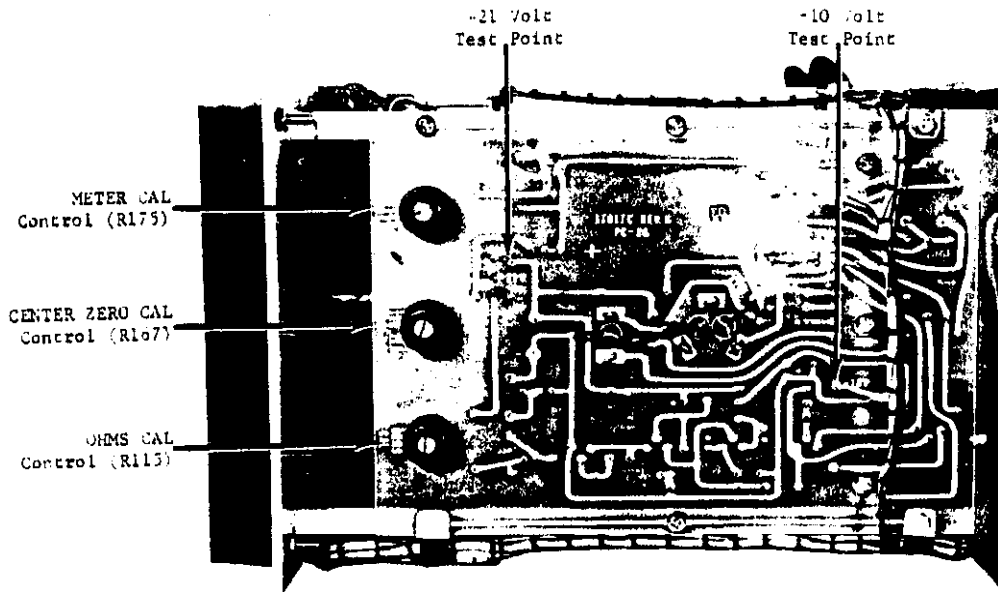
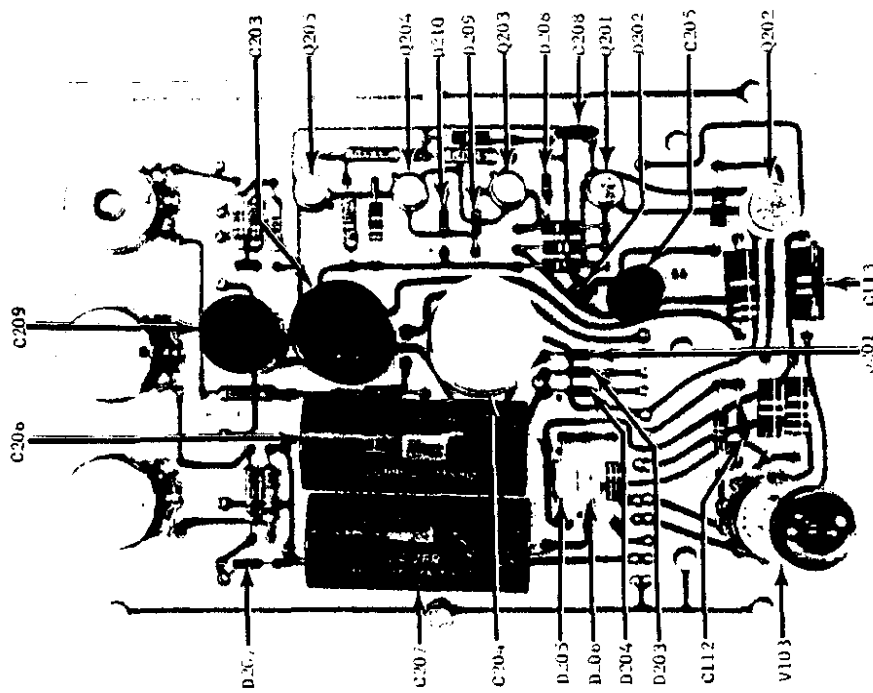
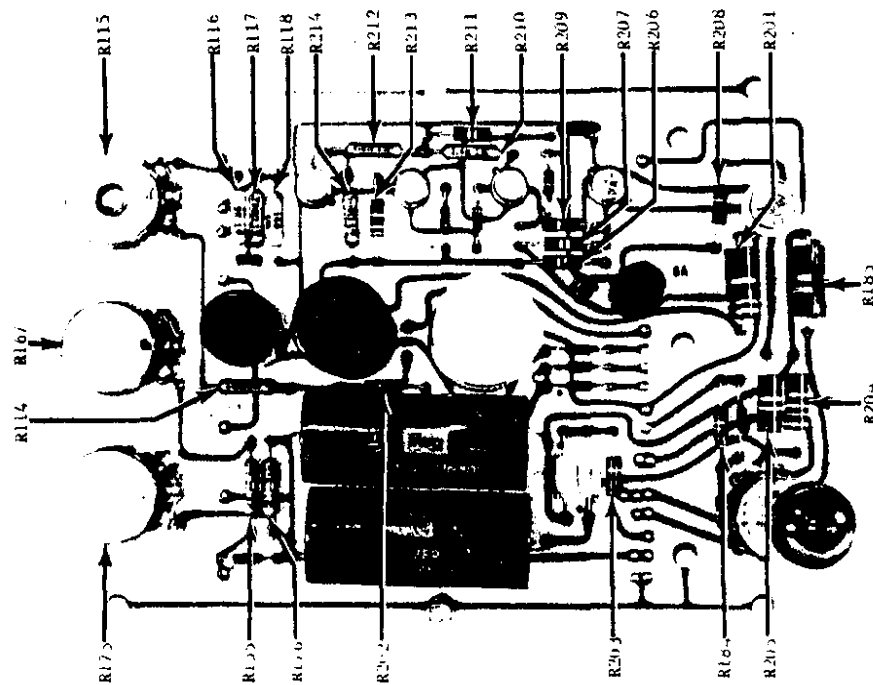

FIGURE 18. Model 610B Internal Controls. Test points for the -10 volt and +21 volt power supplies are also shown. Refer to Figure 19 for the DC AMP BAL Control.
FIGURE 23. Capacitor, Diode, Transistor and Vacuum Tube Locations on Printed Circuit 86. Resistors are shown in Figure 24.
FIGURE 24. Resistor Locations on Printed Circuit 86. Other components are shown in Figure 23.
1. Set the FEEDBACK Switch to FAST to connect the instrument's chassis to floating ground. Connect a 100-megohm dc voltmeter between the -10 volt supply and the chassis. (-10 V is indicated on PC-86, Figure 18.) The voltage should be -10 volts dc $\pm 20\%$.
2. Connect the voltmeter between the +21 volt supply and the chassis. (+21 V is indicated on PC-86, Figure 18.) The +21 volt supply can not operate unless the -10 volt supply is operating. The voltage should be +21 volts dc $\pm 10\%$. A faulty +21 volt supply can indicate a faulty zener, D210 (Figure 23).
6. Check the output stage cathode resistor, R185 (Figure 24), and capacitor, C113 (Figure 23), for a possible short.
a. Connect the Model 662 to the junction of resistors R115 and R116 (Figure 24) and the common lead to the + terminal of capacitor C203 (Figure 23). Adjust the OHMS CAL potentiometer, R115 (Figure 18), for 10 volts dc $\pm 0.5\%$.
b. Turn the Model 610B on. Zero the meter on the .001-volt range. Then switch to the 10-volt range. Set the Multiplier Switch to 10; apply 10 volts $\pm 0.05\%$ to the Model 610B INPUT Receptacle. Adjust the METER CAL potentiometer, R175 (Figure 18), for full-scale meter reading.
c. Set the center zero by first zeroing the meter on the .001-volt range. Then switch to the 1-volt range. Set the METER Switch to CENTER ZERO and adjust the CENTER ZERO CAL potentiometer, R167 (Figure 18), for exact center-scale meter zero.